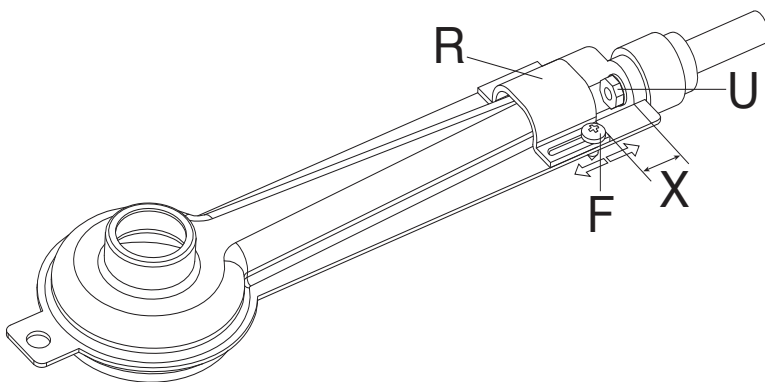
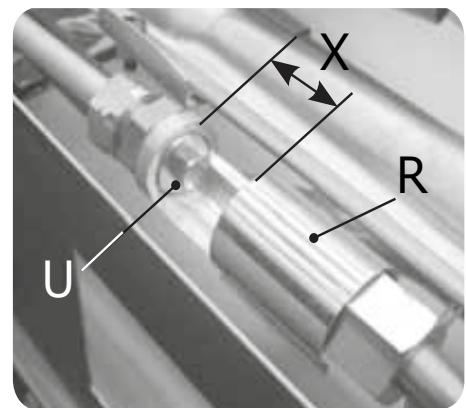

Fig. 6
Fig. 7
3. Unscrew venture pipe screw "F" (fig. 6, fig. 7) and open completely the air regulator "R" .
4. Unscrew the injectors (U) and replace them with those suitable for the gas in use and supplied with the appliance. Refer to table 1 on page 17.